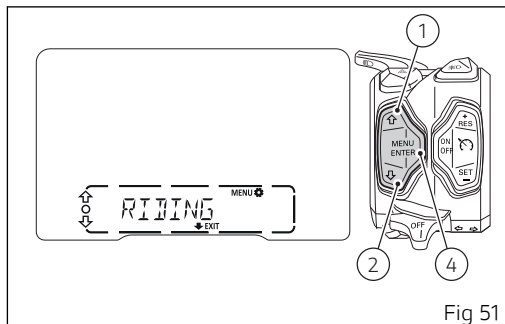

Fig 51
Select RIDING MODE option (Fig 51), by pressing button (1) or (2). Once function is displayed, press button (4).